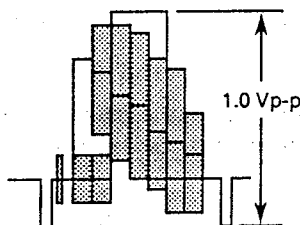

Figure 2-5.
3. Adjust R203 so that the signal amplitude is 1.0Vp-p as shown in Figure 2-5.